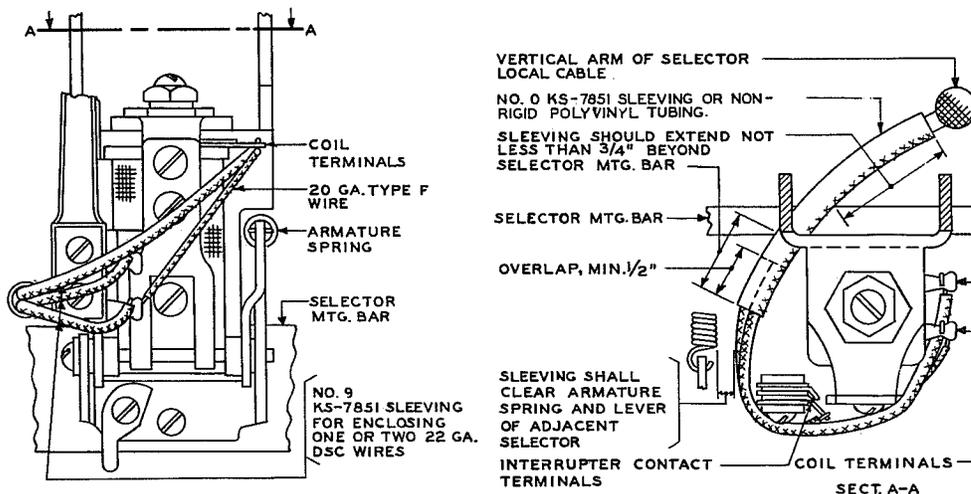

Fig. 1 - Protection of DSC Leads to Coil and Interrupter Spring Contacts of 200- and 206-type Selectors
- (b) On wiring to 200- and 206-type selectors or similar cases where the wiring lies in contact with metalwork and the insulation is badly frayed or the protective tape has become dried out to the extent that it does not adequately protect the wiring, the leads should be sleeved with varnish impregnated sleeving per KS-7851. The leads should be sleeved individually using No. 9 sleeving, except where more than one connects to the same terminal in which case these leads should be enclosed in one sleeve, using No. 9 or larger sleeving as required. Where the wiring is sewed, stitches should be removed as required to permit redressing the sleeved leads as necessary to present the best maintenance conditions. Larger sleeving should be used where necessary to enclose a form for protection against metalwork. Fig. 1 shows the recommended method of sleeving wiring to 200- and 206-type selectors in which case the No. 9 sleeving should be used to enclose one or two leads to a particular terminal and No. 0 to enclose the local cable. Where the insulation is only slightly frayed and the wiring, including the protective tape, is otherwise in good condition, cellulose acetate lacquer should be used to recondition the wiring.